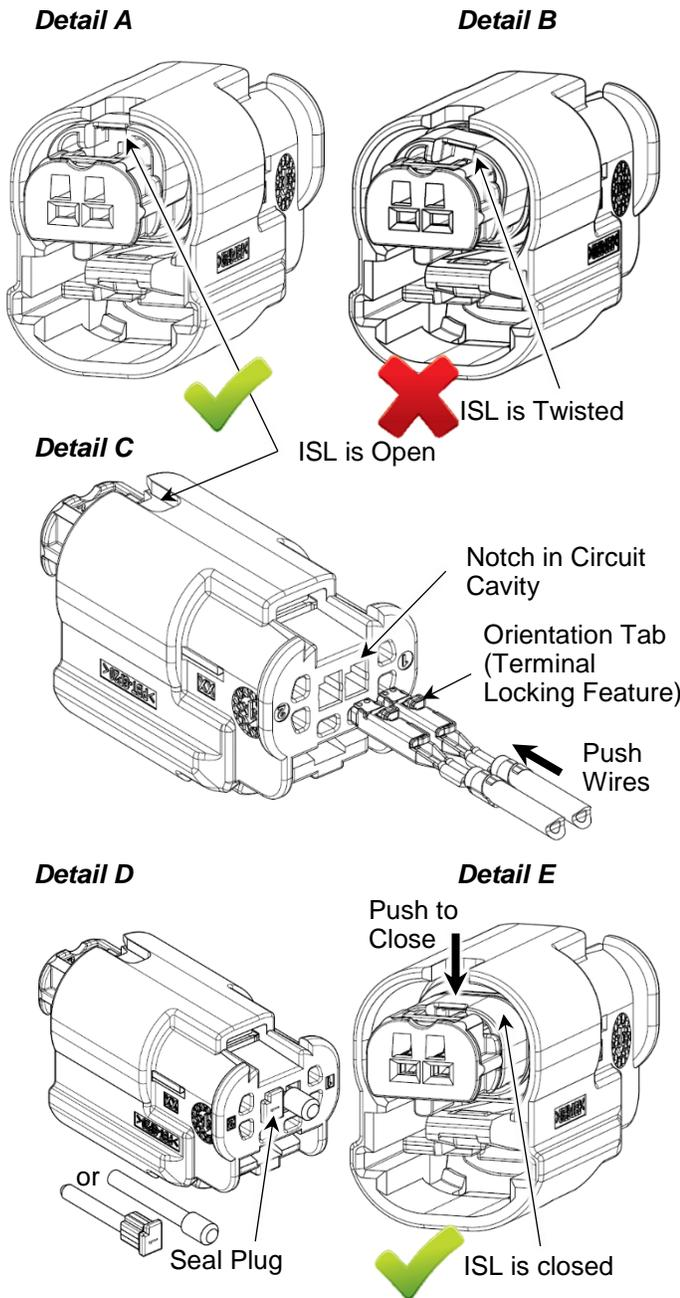

Figure 2
3. Make sure that the ISL is open as shown in Figure 2, Detail A. If the ISL is twisted as shown in Figure 2, Detail B, or otherwise not fully open, open the ISL according to Paragraph 4.2.
a. Align the terminals with the selected circuit cavity of the housing so that the terminal orientation tab faces in the same direction as the notch in the circuit cavity. See Figure 2, Detail C.
b. Insert the terminal into the circuit cavity until it bottoms. There should be an audible or tactile “click” when the terminal is fully seated. Gently pull the wire to ensure that the terminal is locked in place. See Figure 2, Detail C.
5. Install a seal plug (part number 1-1452424-3) into any unused circuits. See Figure 2, Detail D. Alternate seal plug part number: 0413-204-2005.
6. After all terminals have been inserted, slide the ISL until it is closed. The ISL should be easy to close. See Figure 2, Detail E. Visually inspect that the ISL is closed and rests uniformly flush within the plug housing. If the ISL does not close completely, confirm the terminals are indeed fully seated in the circuit cavities prior to re-closing the ISL.
- b. The ISL will move by approximately 1.5 mm so that it is flush with the inside of the outer housing. See Figure 2, Detail A. This is the “open position” and the ISL must be in this position before removing the terminals from the connector.